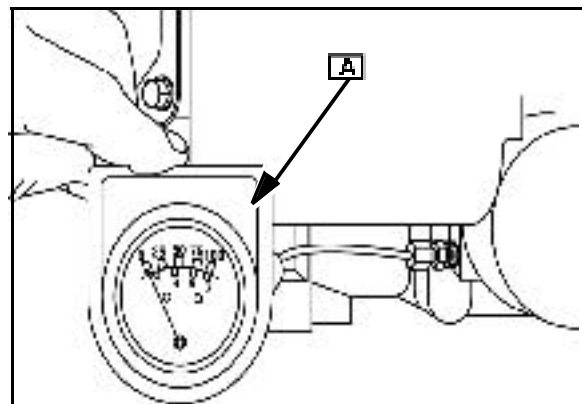

Fig. 50
If the oil pressure switch is within specification and the warning light remains on, verify engine oil pressure with an oil pressure gauge ([A] Fig. 50).
3. Install oil pressure gauge ([A] Fig. 50).